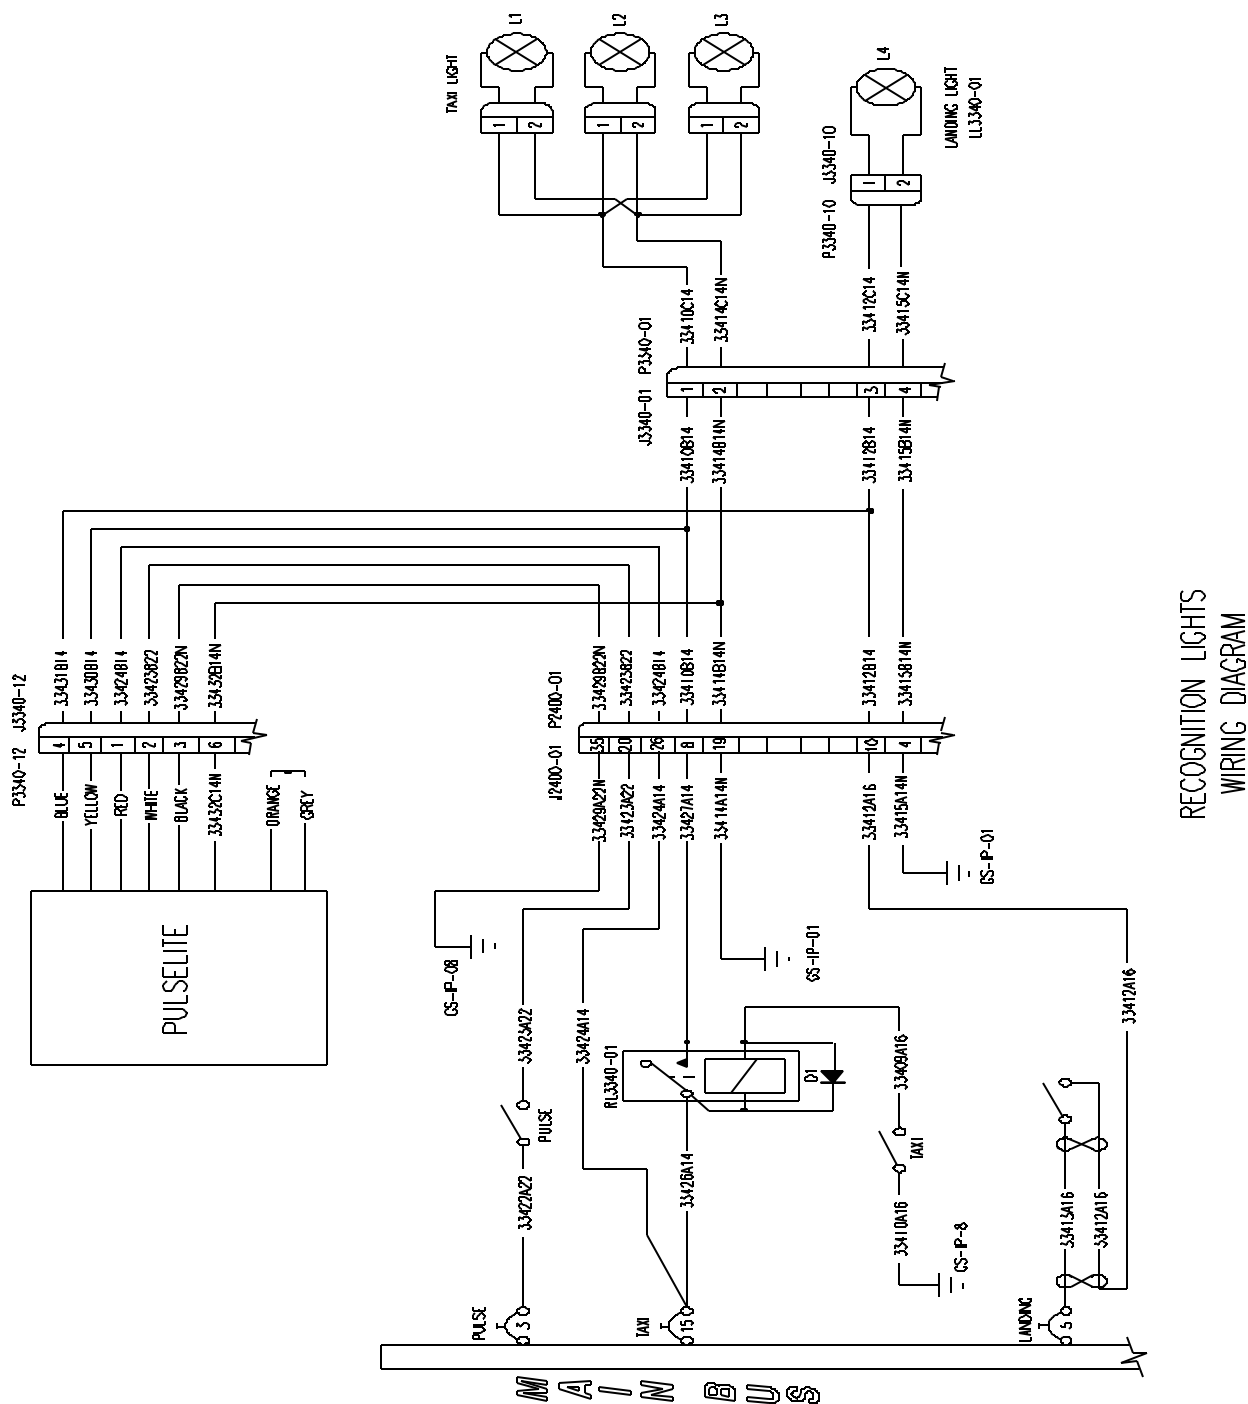

Figure 5
- 10.17 Refer to the wiring diagram (Figure 5). Disconnect P2400-01 from J2400-01. Release the back shell from P2400-01. Insert wire #33424B14 into position 26, insert wire # 33429B22N into position 35, insert wire #33423B22 into position 20.